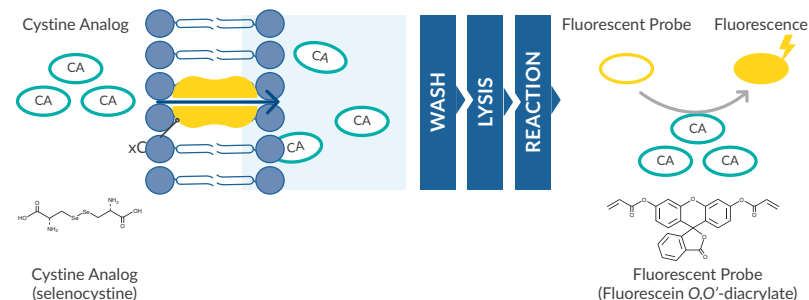

Figure 1. Principle of the Cystine Uptake Assay Kit
The Cystine Uptake Assay Kit is a convenient fluorescence-based assay for studying cellular uptake of cystine *via* xCT without the use of radioisotopes. The cystine analog (CA) in this kit is taken up into cells *via* xCT, and the transported CA is specifically detected using the provided Fluorescent Probe and Reducing Agent (See Figure 1, below).⁵